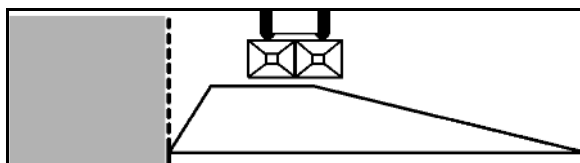
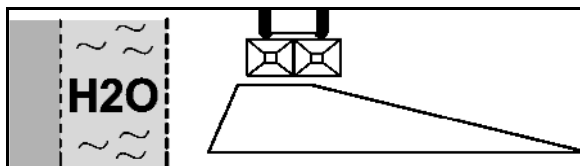

Fig. 61
Fig. 62
1. Release the thumb screw (Fig. 61/2) and detach the deflector.
4. Secure the additional deflector (Fig. 61/1) with the clamping plate (Fig. 62/1) and carry in parking position (Fig. 62).